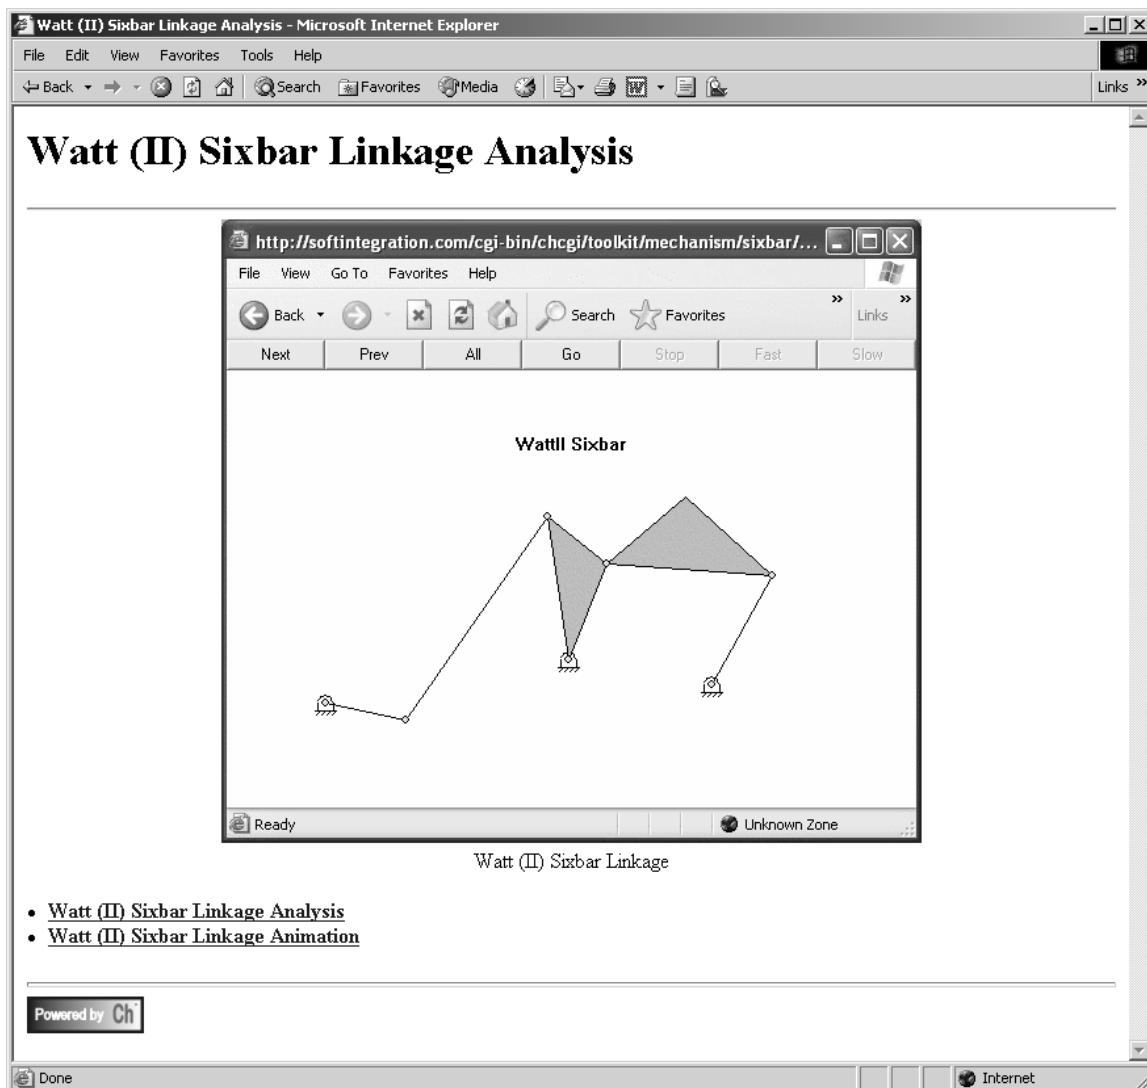
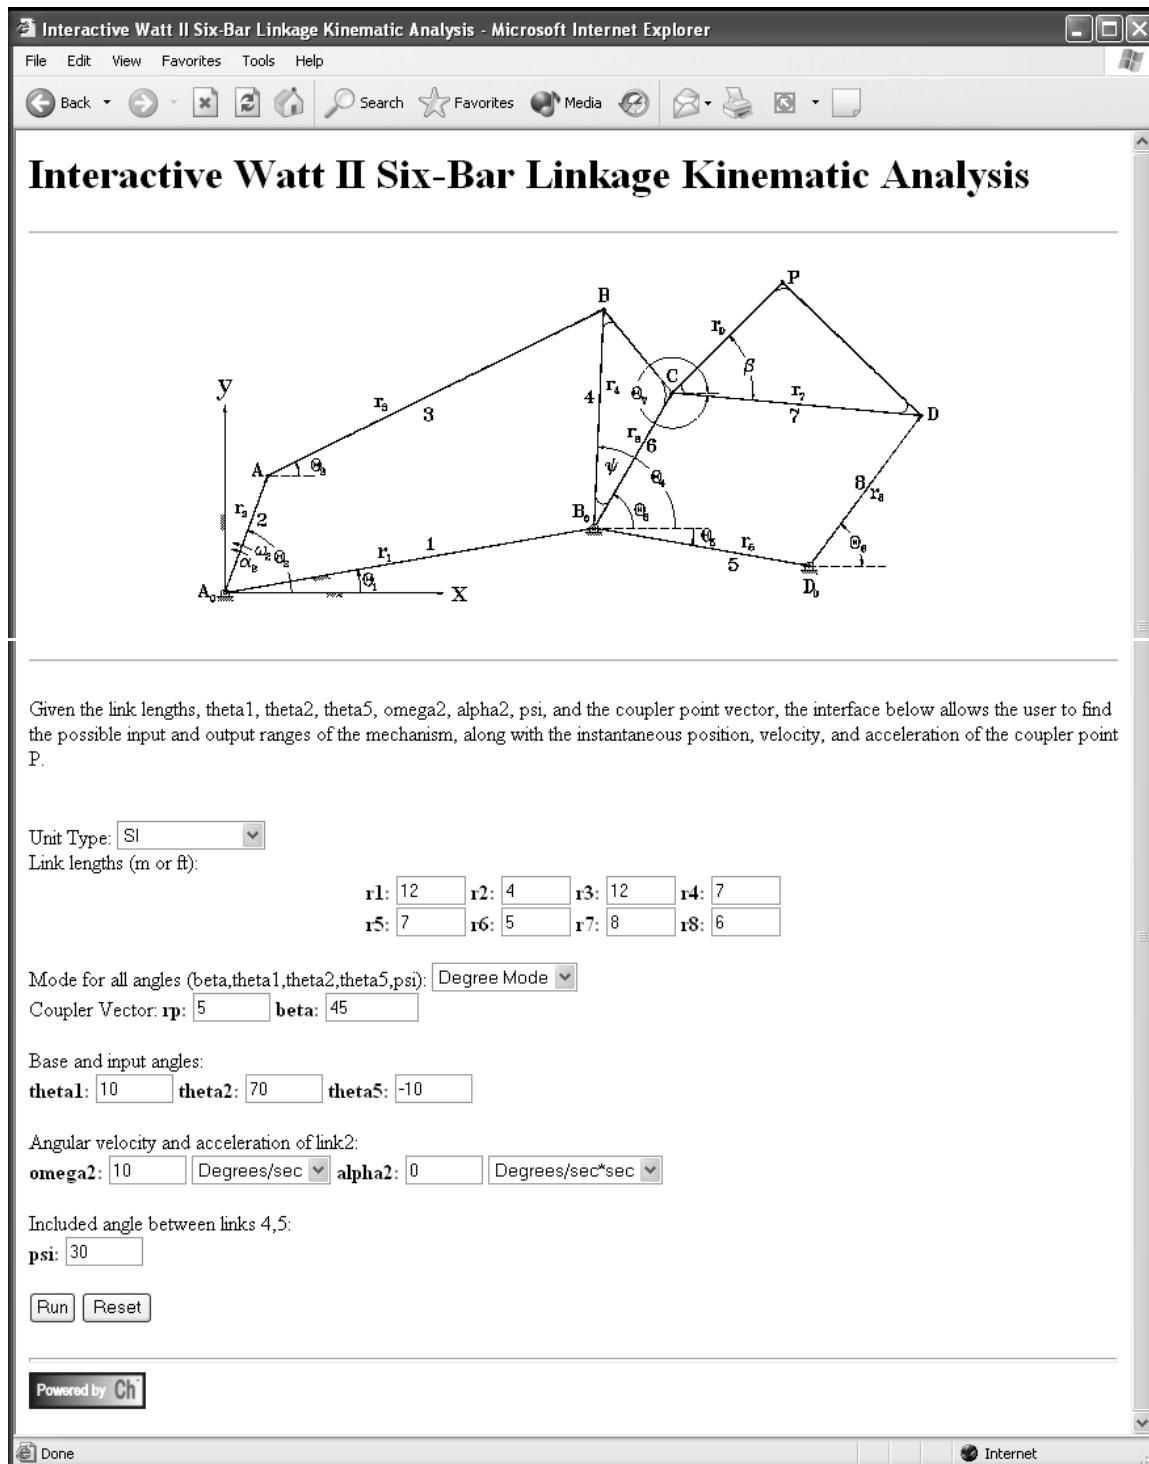

Figure 5.16: Main web page for the Watt (II) sixbar.
Figure 5.17: Web page for Watt (II) sixbar kinematic analysis.
Figure 5.16 shows the main web page for web-based analysis of the Watt (II) sixbar mechanism. The web pages for analyzing and animating the Watt (II) sixbar are shown in Figures 5.17 and 5.18, respectively. Based on the Watt (II) sixbar defined in the problem statement of Problem 2, the result of executing the analysis of Figure 5.17 is shown in Figure 5.19. The output of the Watt (II) linkage analysis web page contains values for the angular positions, velocities, and accelerations of all the links as well as values for the coupler point position, velocity, and acceleration. Note that the coupler link is assumed to be link 7, which corresponds to the Watt (II) sixbar figure shown on the web page.